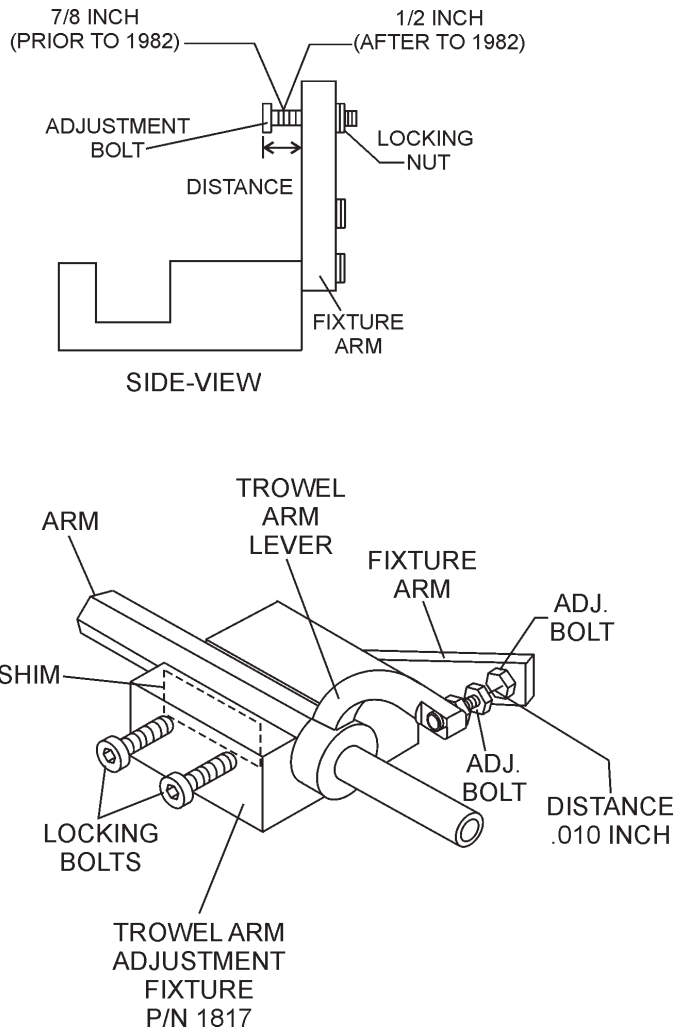

Figure 47. Trowel Arm Adjustment Tool
Shown in Figure 47 is the adjustment fixture with a trowel arm inserted. As each trowel arm is locked into the fixture, the arm bolt is adjusted to where it contacts a stop on the fixture. This will consistently adjust all of the trowel arms, keeping the finisher as flat and evenly pitched as possible.
2. Trowels manufactured prior to June of 1982 require that the distance from the end of the adjusting bolt and the fixture arm must be 7/8" (Figure 47). Conversely, trowels manufactured after June of 1982 require that the distance from the end of the adjusting bolt and the fixture arm must be 1/2".
3. Un-screw the locking bolts on the adjustment tool, and place the trowel arm into the adjustment fixture channel as shown in Figure 47. A **thin shim** may be required to cover the blade holes on the trowel arm. Make sure to align the trowel adjustment bolt with the fixture adjustment bolt.